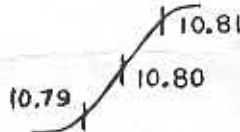

Figure 3
7. Connect scope directly to pin 1 of IC 6 and adjust T5 so that 10.8 MHz is in center of discriminator curve and for best linearity. See Fig. 3.